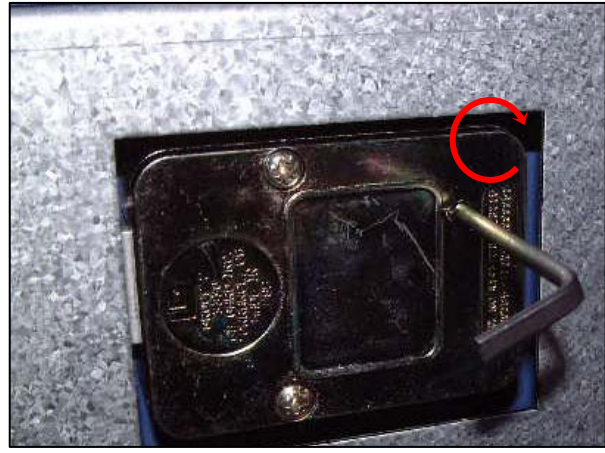

Fig.4.5
- 6) Push the change bar completely until it is held by the dial change home (Fig.4. 4) inside the safe door and turn to the clockwise by 90 degrees (Fig.4.5).